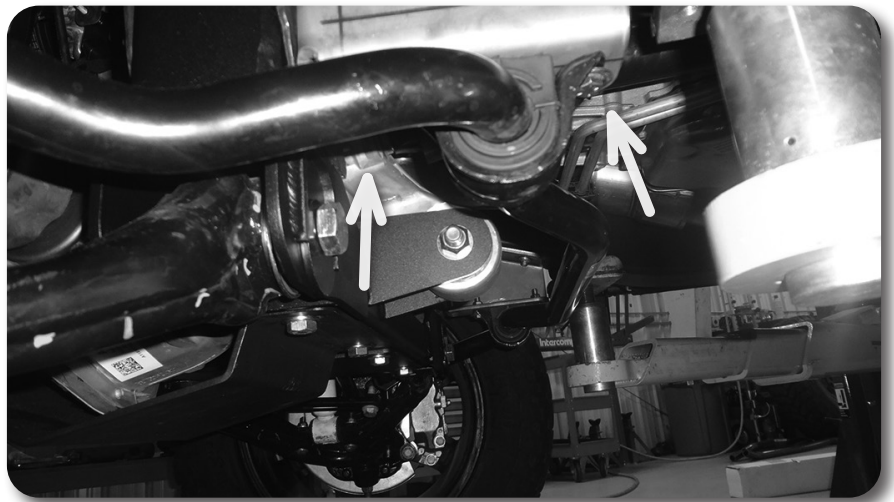

Figure 47
69. Attach the front sway bar to the sway bar drop bracket with the provided 3/8" bolts, prevailing torque nuts, and washers Fig. 47. Attach the sway bar link to the front control arms. Torque the sway bar drop hardware to 44 ft-lbs. Torque the sway bar link hardware to 74 ft-lbs